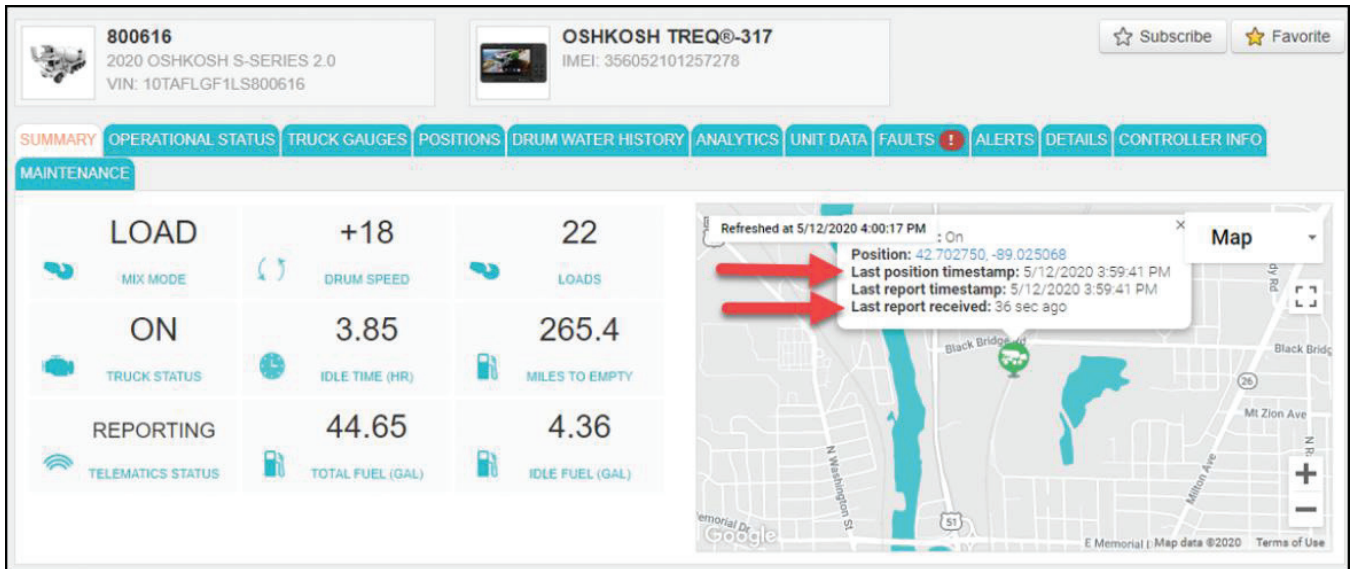

Figure 34
68. Check the GPS by clicking on the SUMMARY tab and making sure the map shows the current location of the truck. The time stamp displayed should be within 2 minutes of the current time. See Figure 34.